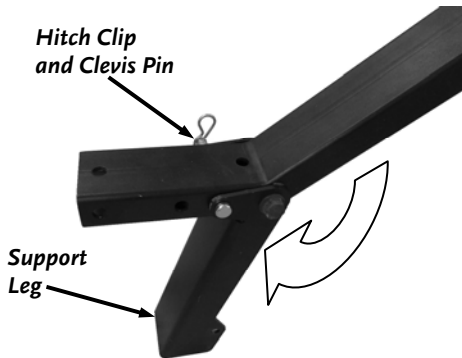

Figure 10
3. Pull the Hitch Clip and Clevis Pin from the Leg and fold it to the down position. Align the holes and secure the Leg with the Clevis Pin and Hitch Clip (**Figure 10**).